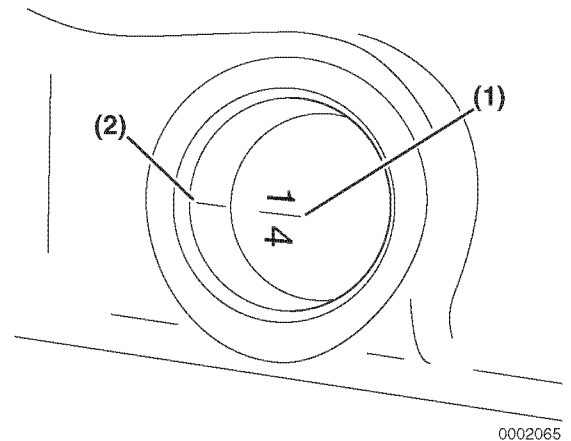

Figure 7-41
8. Highlight the timing reference mark (**Figure 7-41, (2)**) on the flywheel housing or engine back plate (**Figure 7-42, (2)**). Highlight the TDC (Top Dead Center) mark (**Figure 7-41, (1)**) on the flywheel.